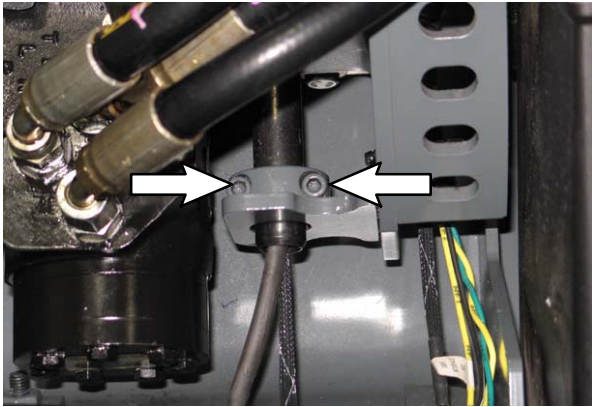
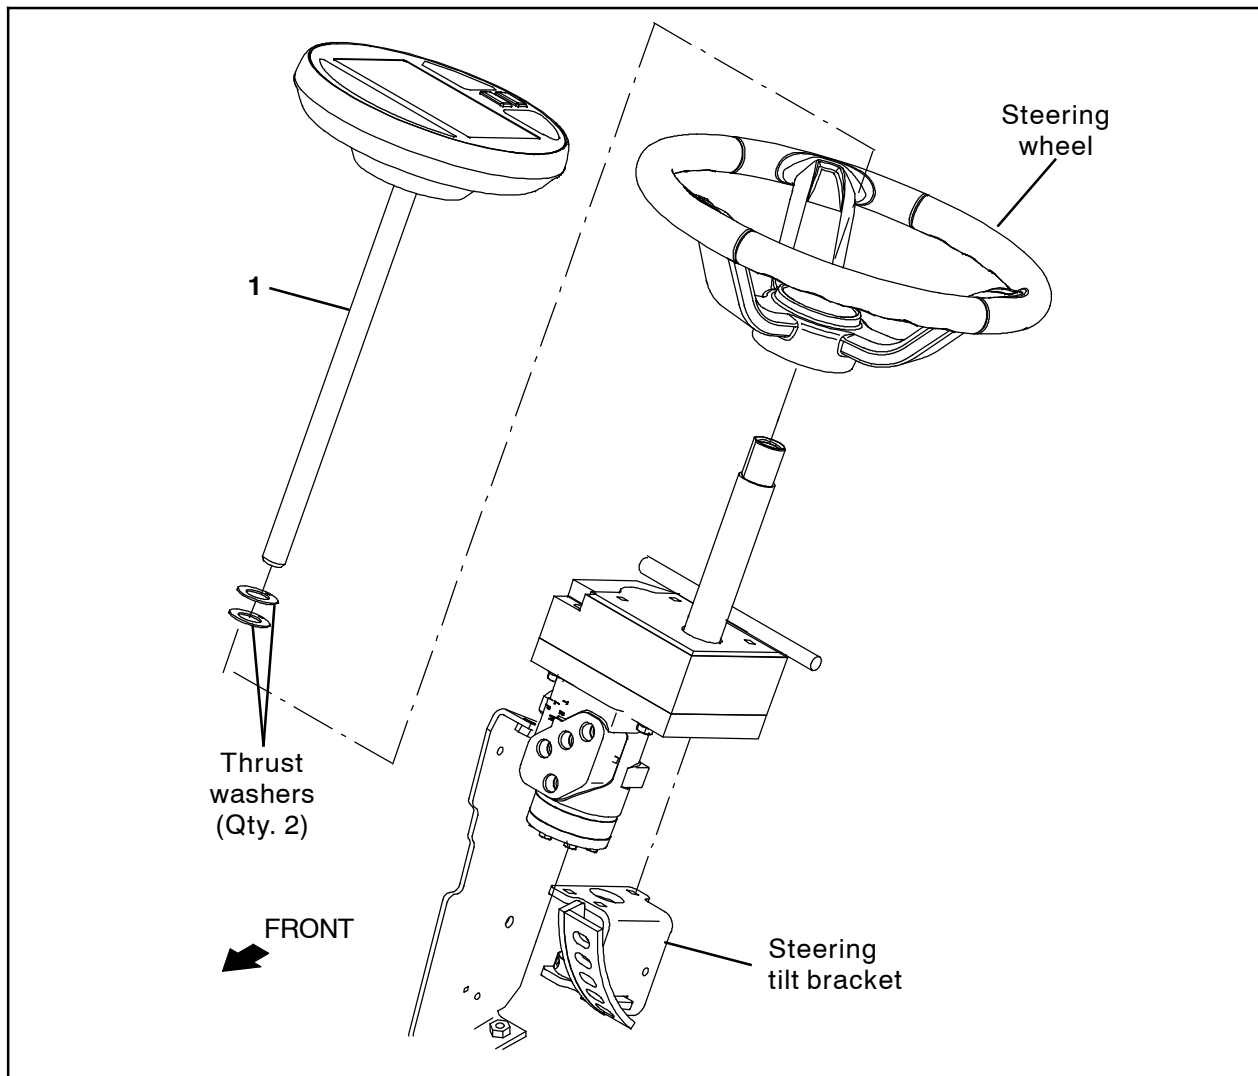

FIG. 2
FIG. 3
2. Loosen the socket screws (Qty. 2) securing the pod assembly into the steering tilt bracket. (Fig. 2/Fig. 3)
3. Pull the pod assembly out from the steering assembly. (Fig. 3)
4. Remove the two thrust washers from the pod assembly. Set the thrust washers aside. Discard the removed pod assembly. (Fig. 3)
5. Slide the thrust washers onto the new pod assembly (1). (Fig. 3)
6. Insert the new pod assembly (1) into the steering assembly. (Fig. 3)
7. Orient the pod assembly (1) so the display is positioned correctly in the steering wheel and tighten the two socket screws to secure the pod assembly into the steering tilt bracket. (Fig. 2/Fig. 3)
8. Connect the pod assembly (1) to the main wire harness.